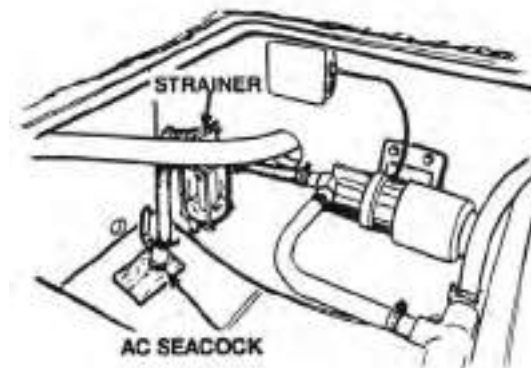

Figure 4-16 – Typical Air Conditioning Sea Cock, Strainer, and Pump
1. Open the air conditioner sea cock. (See **Figure 4-16**.) The valve is open when it is in line with the hose.